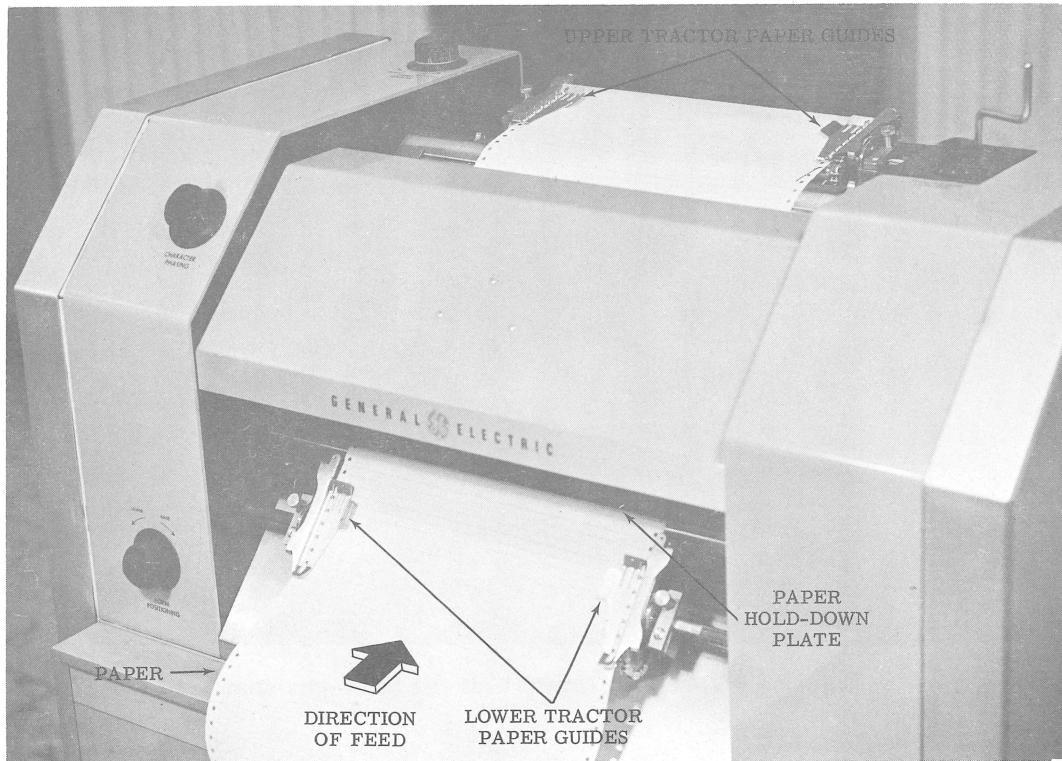

Figure 7. Tractor Feed Mechanism
**TRACTOR FEED ASSEMBLY.** The tractor feed assembly (see Figure 7) consists of an upper and lower set of paper sprocket and tractor guides. The sprockets drive the paper forward by engaging perforations in the continuous form paper, and holds the paper stationary during printout.